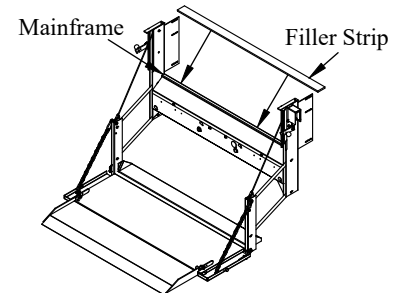

Figure 5: Filler strip location.
1. **Weld** the filler strip (12ga.x2"x52-3/4") to the top corner of the liftgate mainframe (Figure 5).
1. **Position** the mounting brackets into the truck bed in front of the corner posts (Figure 5).